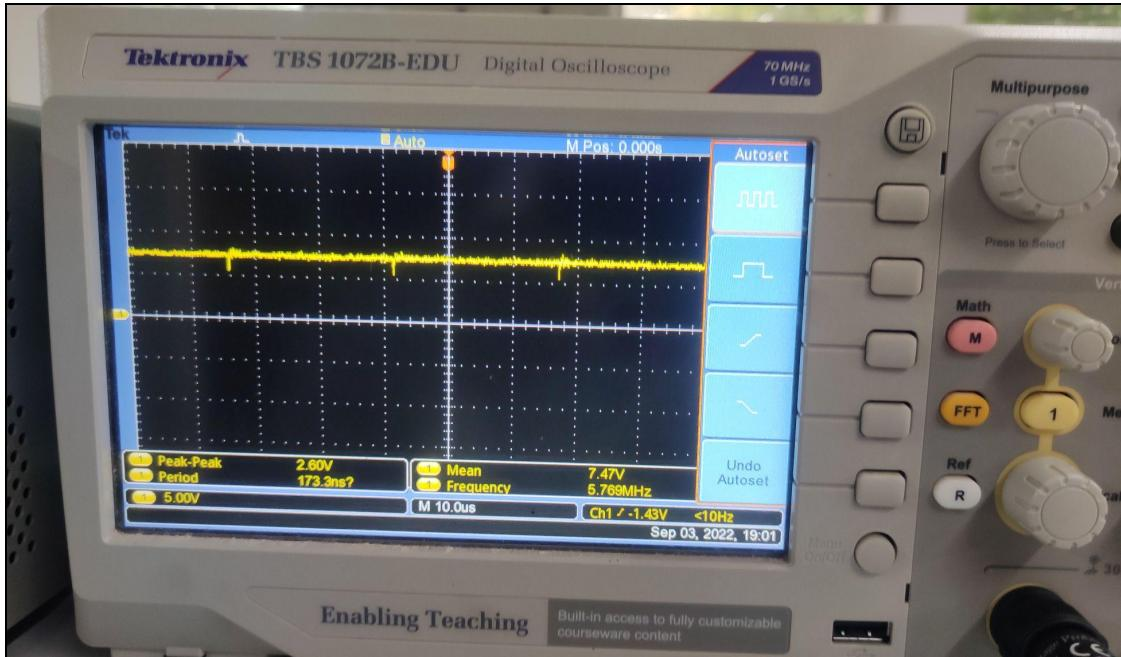

Fig6: Output voltage waveform for the terminals of rheostat or output side capacitor.
1. The output voltage of a buck converter is never higher than the input voltage. So, as the duty cycle is set to 50%, we saw that the output voltage is also 50% of the input voltage in Fig6.